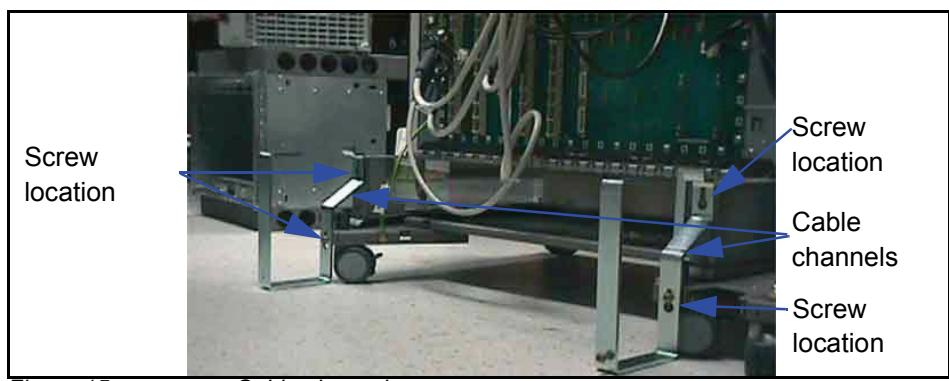

Figure 15
1. At the back of the base cabinet, place the cable channel against the cabinet as shown in Figure 15.